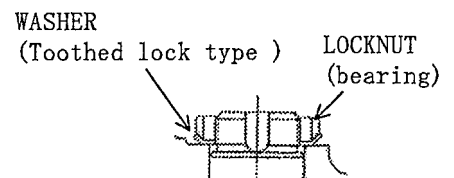

Fig. 4
- ③ Toothed lock type washer and lock out type parts (Refer to Fig. 4.)